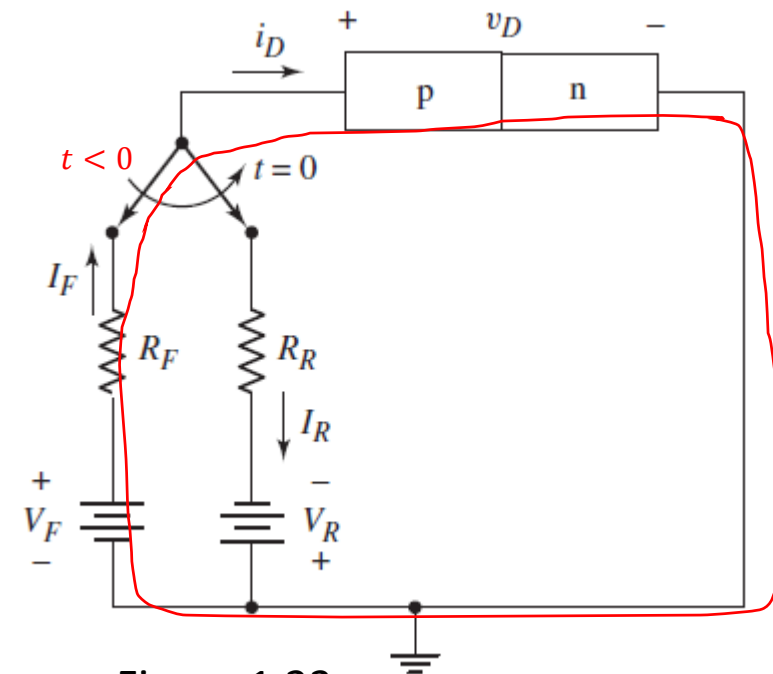

Figure 1.23
- Figure 1.23 shows a simple circuit that will switch the applied voltage at time  $t = 0$ .